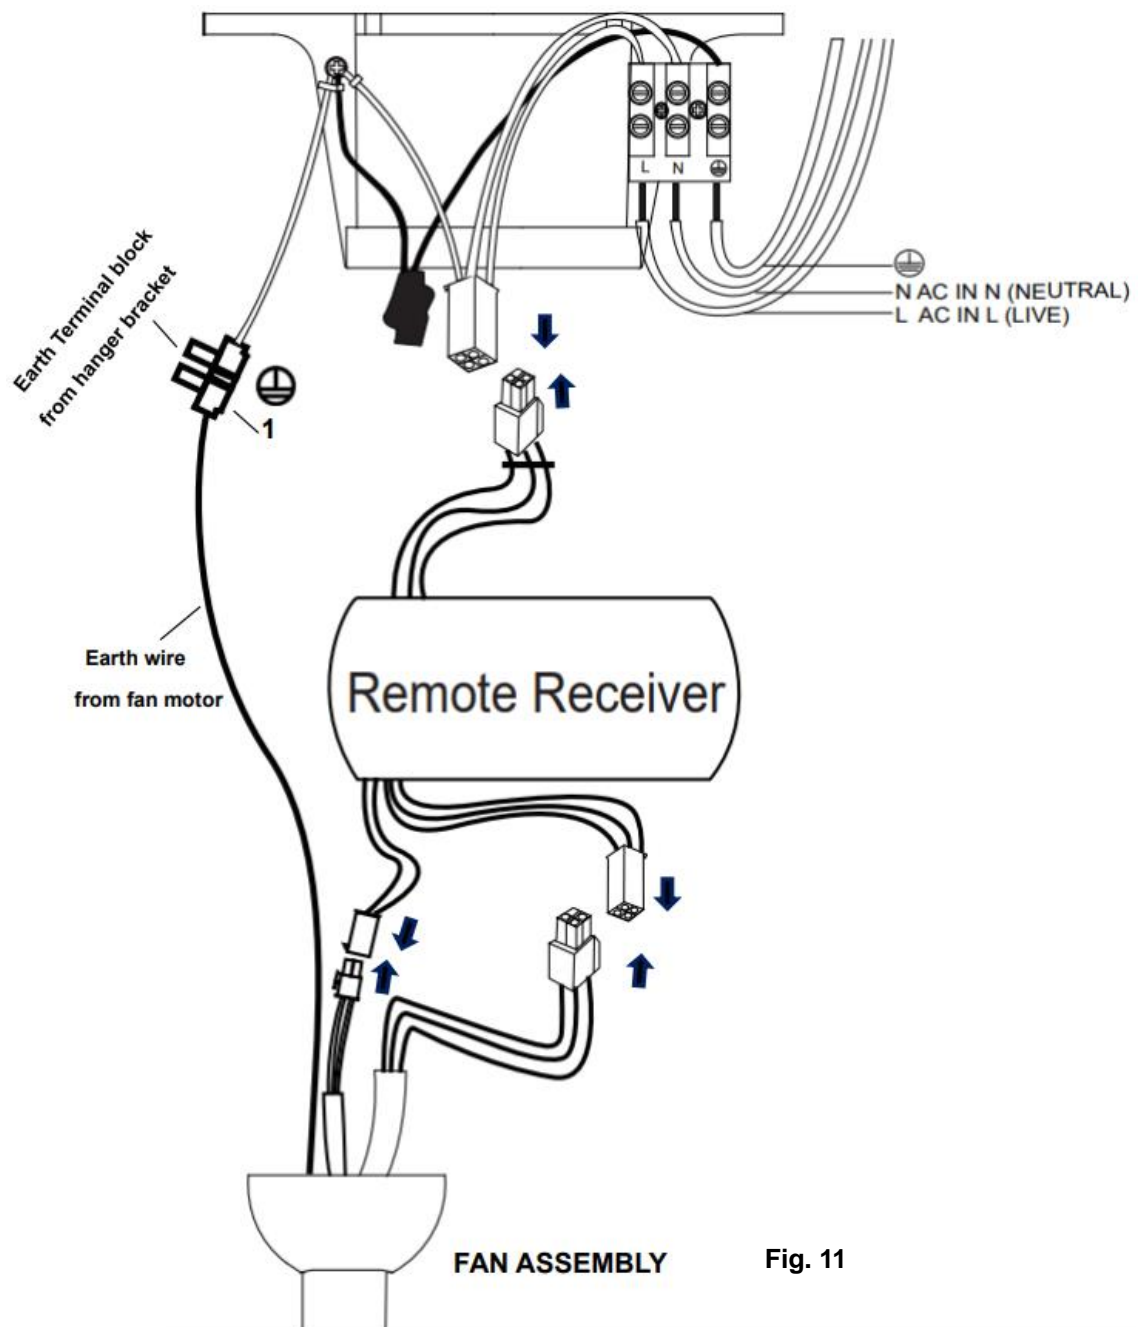

Fig. 11
**ELECTRICAL WIRING DIAGRAM THE FAN****PREPARE AND COMPLETE THE ELECTRICAL WIRING --- WIRING DIAGRAM (FIG. 11)**
**NOTE:** Ensure the motor earth wire is connected to the single earthing terminal block “1” in the diagram below (Fig. 11).
**From mains supply to mounting bracket terminal block: (Fig. 11)**
**From mounting bracket to receiver and motor: (Fig. 11)**